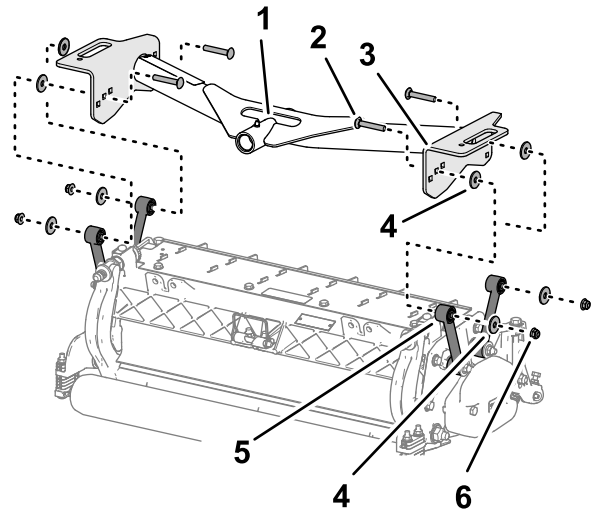

Figure 15
- Align the holes in the plates of the front-carrier frame with the holes in the cutting unit mounting plates (Figure 15).
- Align a washer between the carrier plate and link (Figure 15), and loosely assemble the plates and spacer with a carriage bolt (3/8 x 2-1/4 inches), washer, and flange locknut (3/8 inch).